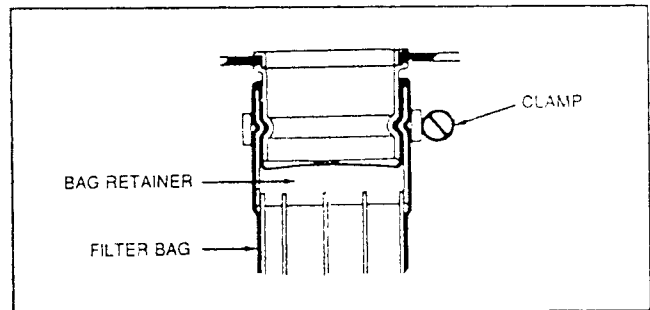

Figure 3
4. Slip the retainer-bag-clamp assembly over a collar in the tube sheet. (Figure 3).